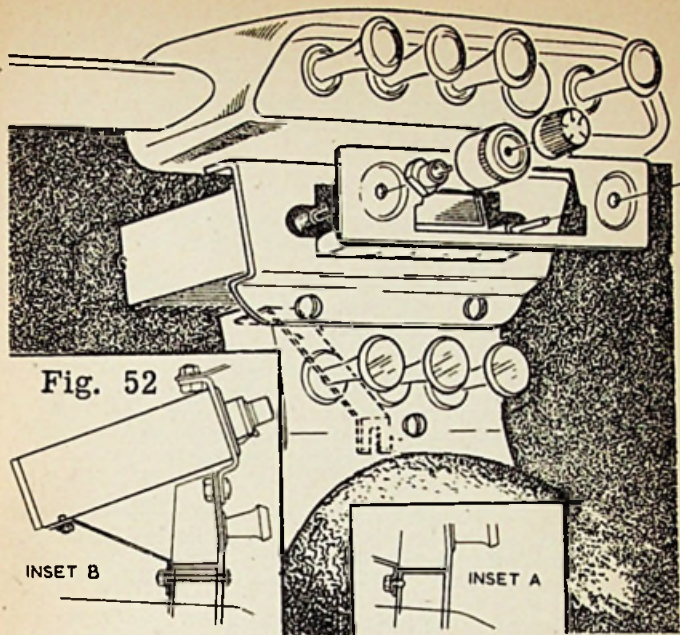

Fig. 52
- (A) Remove and retain the four nuts and screws holding the faceplate to dash edge and floor dash bracket.
- (B) Fit the faceplate provided using the original fixings. See Fig. 52. Inset 'B'
- (4) Cut trim cloth away from radio aperture.
Note: Discard the plastic spindle nuts from push button models and fit the special nuts from kit as shown in Fig. 52.
- (7) Pierce trim, secure rear support bracket to radio and facia bracket as shown in Fig. 52. Inset 'B'.
Note: The hole in front of the facia bracket is not provided on early production cars but a tapped 10 UNF hole is provided behind the bracket. In these cases secure the support bracket with 10 UNF x 3/8" screw and washers as shown in Fig. 52. Inset 'A'.